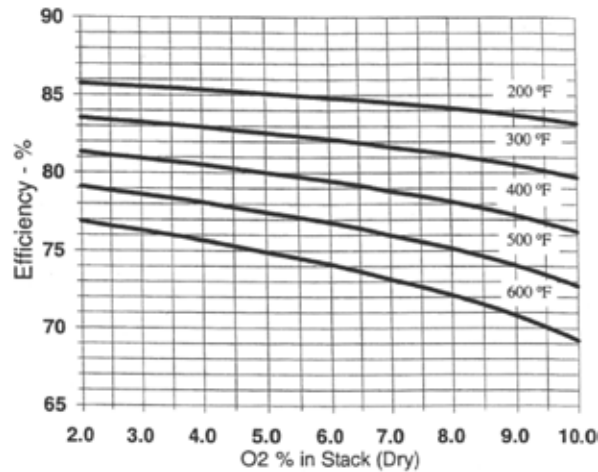

Figure 19: combustion efficiency for Natural Gas as function of O₂ and net stack temperature
4.5.8 Figure 19 shows combustion efficiency as a function of net stack temperature and O₂ in the stack for natural gas. Net stack temperature is the difference between the measured stack temperature and ambient temperature. This graph does not include radiation and convection losses from the boiler or heat exchanger.